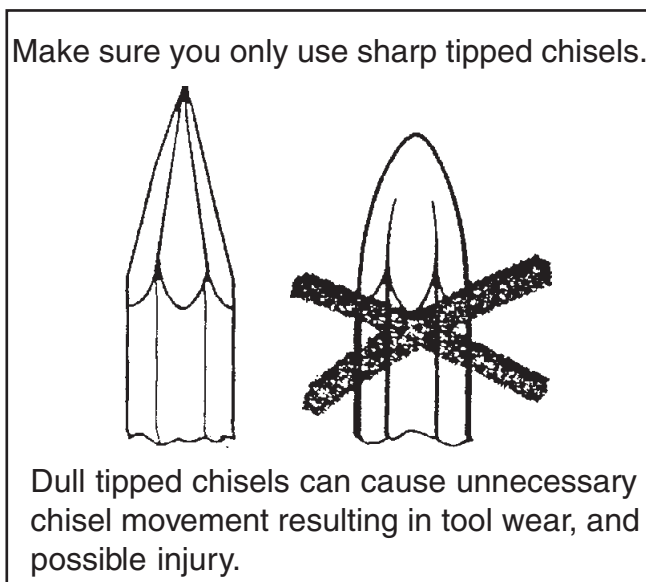

Figure 1
Chisels come with or without collars. *Figure 1* shows installation of a chisel without a collar (the two included chisels are without a collar). *Figure 2* shows installation of a chisel with a collar.
1. Pull the retaining ring to the side just far enough to allow the bit to be inserted, as shown in *Figure 1*.